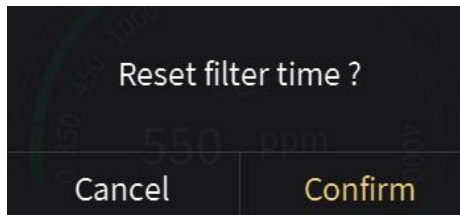

Fig.2.6.5
The service life of the filter set by the parameter configuration. When the filter time reaches to the parameter setting value, the alarm status can be issued through the bus, and the remaining filter timer value can be displayed to be 0%. When touch icon⑧, the filter time can be reset, as shown in Fig.2.6.5 below. After clicking “Confirm”, the filter timer value can be reset to 100%.